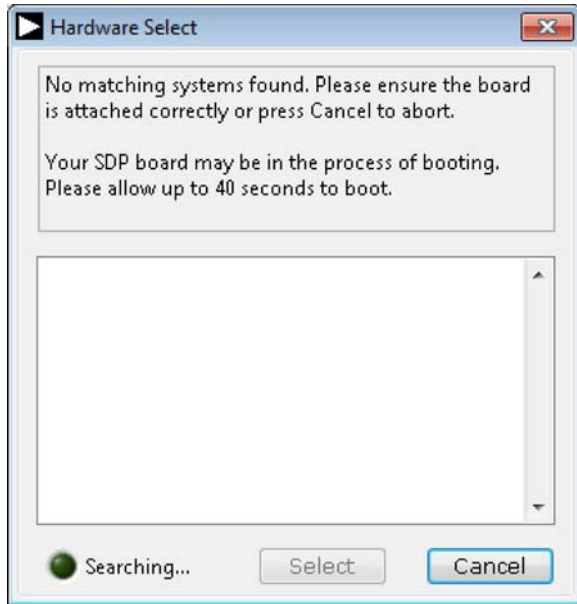

Figure 12. SDP-S Board Not Connected to the USB Port
2. If the SDP-S board is not connected to the USB port when the software is launched, a connectivity error displays (see Figure 12). Connect the evaluation board to the USB port of the PC, wait a few seconds until the board appears in the lower section of the window, and click **Select** (see Figure 12).